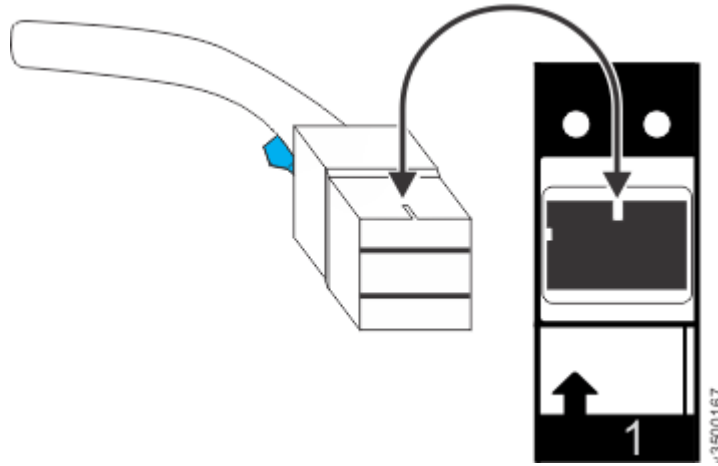

Figure 134. Proper orientation for SAS cable connector
- Figure 134 on page 172 shows the correct orientation. The blue tab is always below the port for expansion enclosure attachment SAS cables.